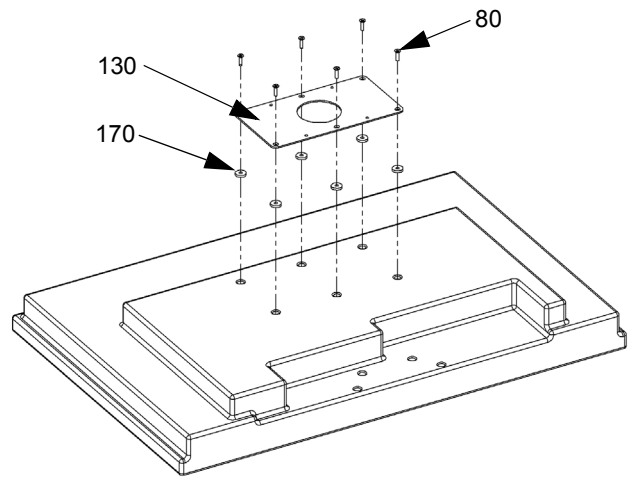

Figure 6: Attach Interface Bracket to Display
1. Select six M6 screws (80) and six spacers (170) from parts bag.
3. Install six M6 screws (80) into the six mounting holes on the interface bracket (130). (see figure 6)
4. Slide six retaining spacers (170) onto six M6 screws (80).
1. Select six M6 screws (30) and six spacers (110) from parts bag.
3. Install six M6 screws (30) into the six mounting holes on the interface bracket (130). (see figure 6)
4. Slide six retaining spacers (110) onto six M6 screws (90).